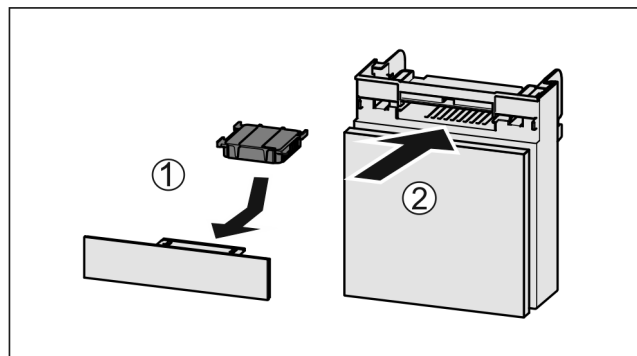

Fig. 134
- Insert the carbon filter as shown in the diagram Fig. 134 (1).
- Push the compartment in Fig. 134 (2).